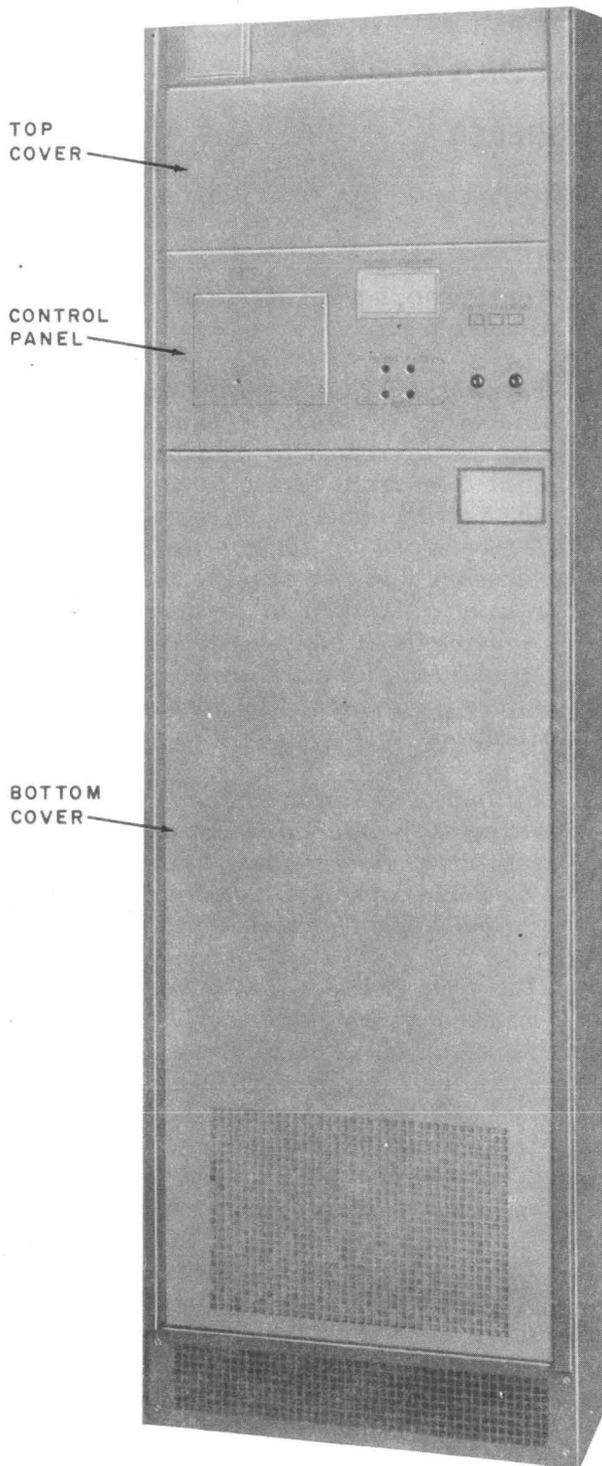
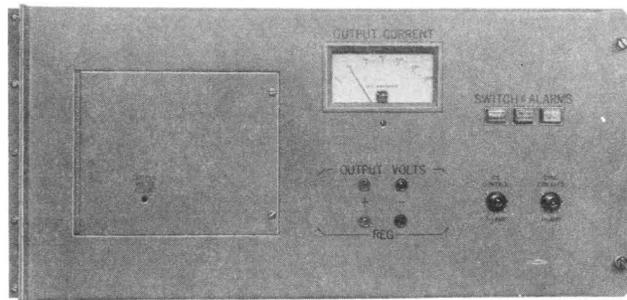

Fig. 1—KS-21113 L1 Rectifier-Covers Installed
Fig. 2—KS-21113 Rectifier Control Panel—Access Door Closed
**1.03** This rectifier is designed to be serviced and maintained from the front only. All electrical connections can be made with the front covers removed (see Fig. 1). The current meter, controls, and fuses, with the exception of the output filter fuse which is located in the bottom of the rectifier cabinet, are mounted on a hinged control panel for access, maintenance, or replacement (Fig. 2).